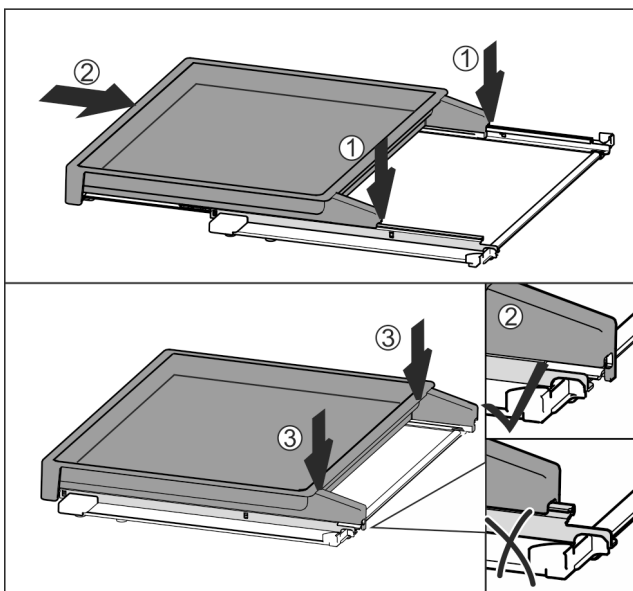

Fig. 116
- ▶ Place centrally on the rails Fig. 116 (1).
- ▶ Slide the pull-out board all the way in Fig. 116 (2).
- ▶ Press down at the back until it clicks into place Fig. 116 (3).